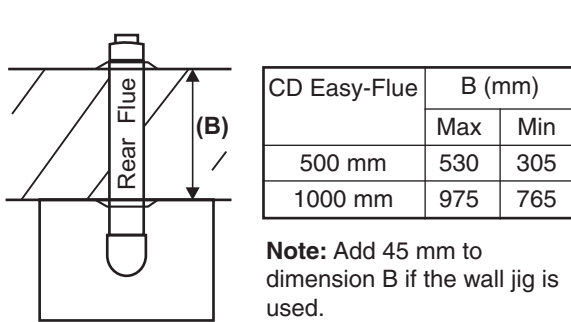

Fig. 5.5
## 5.6 FIT THE FLUE - Figs. 5.5 and 5.6
- When the flue length required is more than the maximum stated in Section 4.6, paragraph 1, refer to the table below and Figs 5.5 and 5.6.